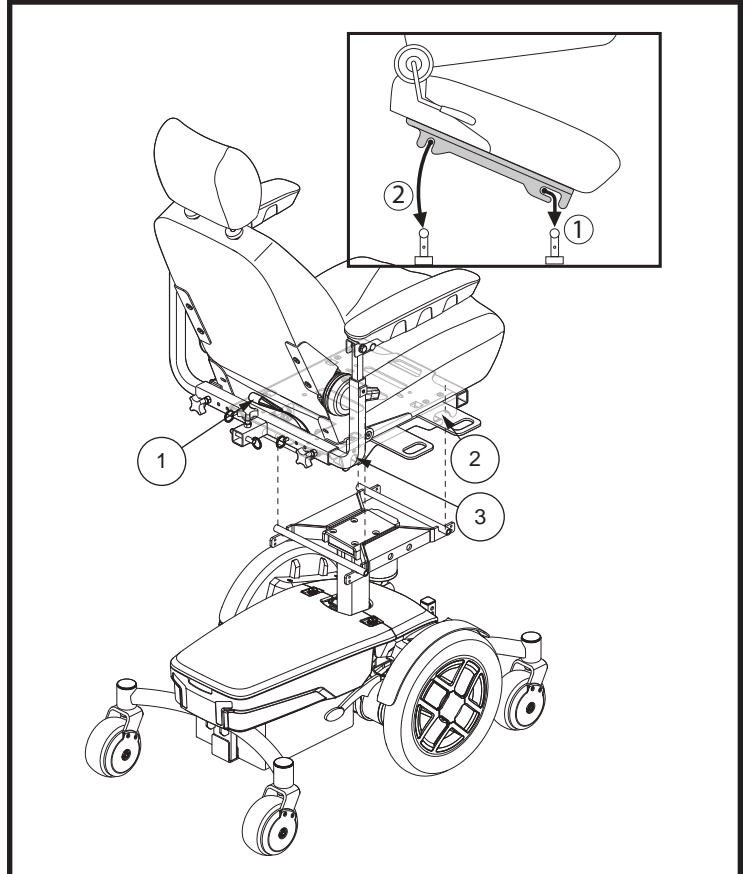
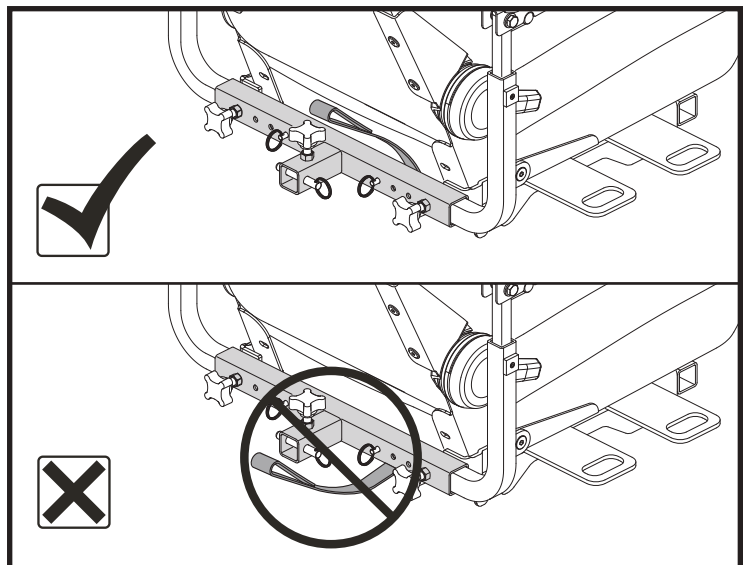

Figure 9. Quick Release Seat Frame
Figure 10. Seat Release Pull Strap Routing
4. Tilt the seat forward and position the two front slots above the front trapeze bar. **See figure 9.**
5. Lower the seat onto the front trapeze bar and push forward until the front trapeze bar slides into the two front slots. **See figure 9.** Ensure the seat release pull strap is routed rearward on top of the armrest receiver tube. **See figure 10.**